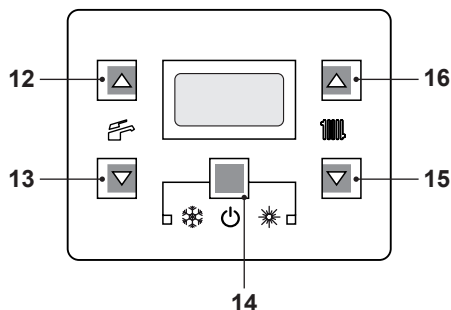
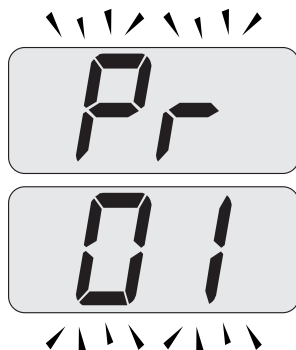
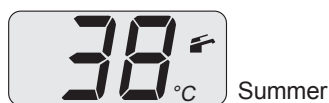

Fig. 9.18
Fig. 9.19
Fig. 9.24
- Enter in "programming mode" by pressing keys 14 - 15 - 16 (Fig. 9.18) for 10 seconds at the same time until the letters **Pr** that alternate with code **01** are displayed on the LCD display, indicating that "parameter 01" (Fig. 9.19) has been activated.
- Press keys 15 and 16 (Fig. 9.18) at the same time until the LCD display displays the letters **LP** that alternate with the heating water temperature value (e.g.**45**), indicating the activation of the "chimney sweep function" at minimum output (Fig. 9.20).
- By pressing 16 (Fig. 9.18) it is possible to change power in chimney sweep mode: with the letters **hP** on the LCD display which alternate between the heated water temperature (i.e.**32**), we are in the "chimney sweep function" at the minimum power during heating (21).
- Press keys 14 - 15 - 16 (Fig. 9.18) at the same time again to exit the "chimney sweep mode" and return to the previously set boiler status (Fig. 9.24).